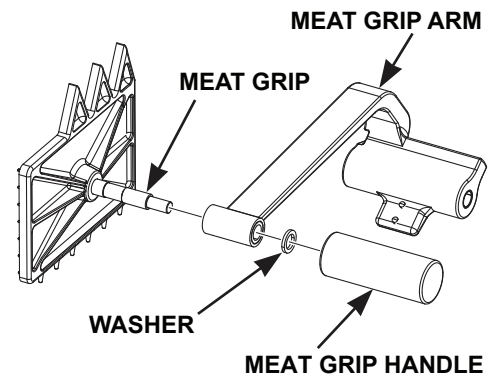

Fig. 8
- Loosen the Meat Grip Handle (Fig. 8) and remove the Handle, Meat Grip Arm, and Washer from the Meat Grip.